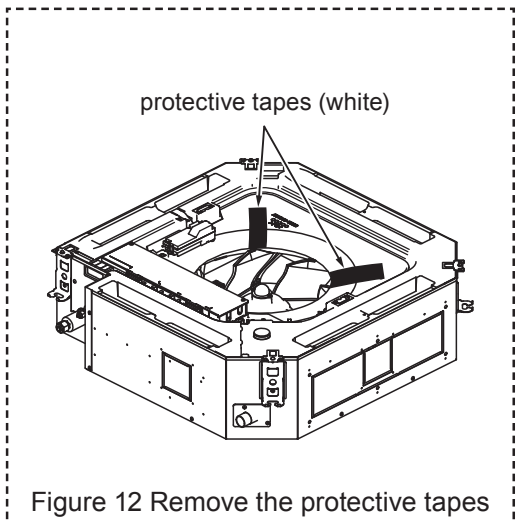

Figure 12 Remove the protective tapes
(5) Indoor unit check
① Remove the securing part
- When installing the 4-way ceiling cassette type, check that the protective tapes has been removed. (Figure 12) removed.